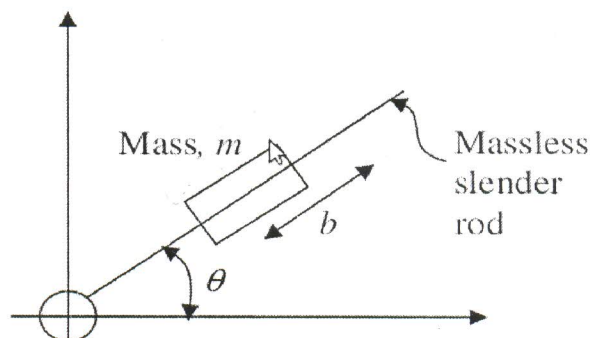

Fig. 1 Mass sliding on a massless rod
(b) Find out the equations of motion of the manipulator shown in Fig. 1 using the DeNOC matrices. [4+8]
2. For the manipulator in Fig. 1 of your written comprehensive, derive the equations of motion considering the slender rod has some mass and the manipulator is placed vertically (i.e., consider the gravity in the equations of motion). Write a MATLAB code to perform the inverse and forward dynamics of the manipulator. Get its manipulability evaluated also. Plot necessary graphs for some numerical values of the link lengths, angles, etc. and time. Show how the results will change if the assumptions in 5(b) of your written comprehensive are considered. [40]